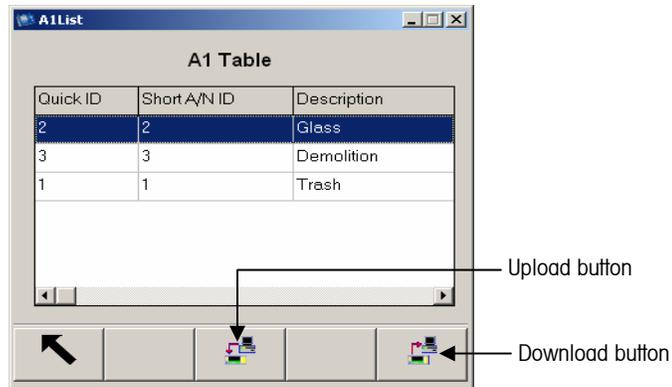
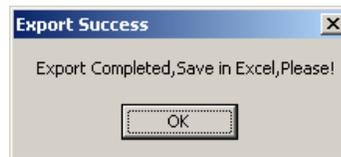

Figure B-15: A1 Table Contents
Figure B-16: Export Success Dialog Box
3. Click on the Database Query icon to display the contents of the A1 Table (Figure B-15).
- To download the contents of the A1 Table to a Microsoft Excel spreadsheet, click on the Download Button (Figure B-15). The Export Success dialog box (Figure B-16) displays to indicate the table data was successfully retrieved.
- After editing/saving the information from Microsoft Excel, the table data can be uploaded into the IND310drive by clicking on the Upload button (Figure B-15).